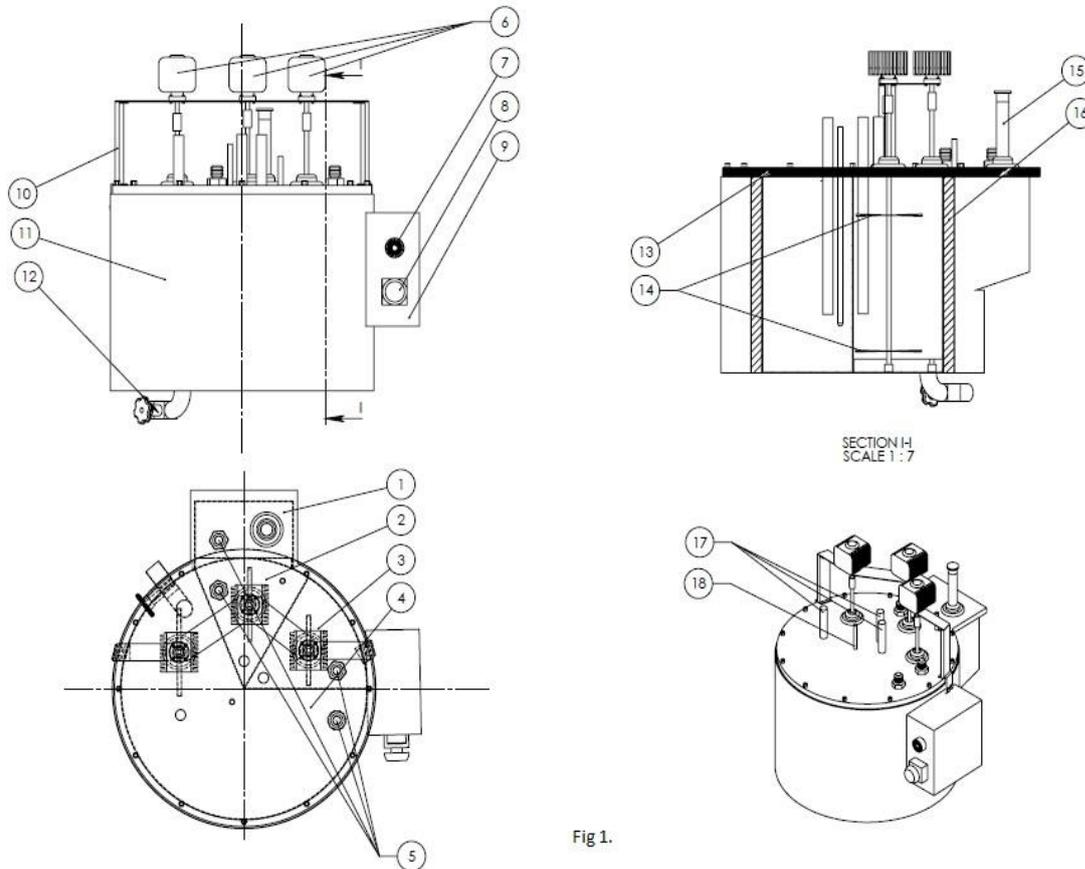

Fig 1.
4. sections module type bioreactor design is implemented in vertical (Fig.1) and horizontal (Fig.2) performance. Bioreactors used for laboratory research.